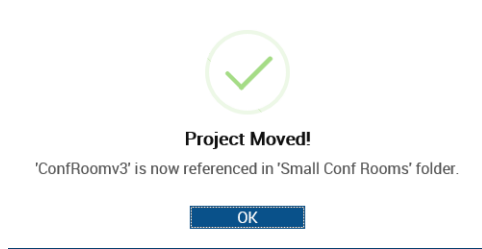

FIG. 49 System message - Project Moved
3. The application indicates that the Project was moved (FIG. 49) - click **OK** to proceed: